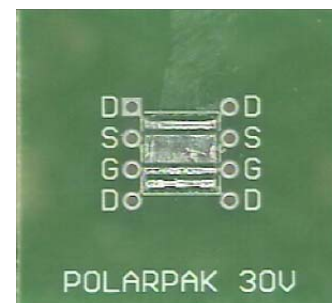

Figure 2. 1" x 1" PCB
- (2) Test PCB used for this experiment (Figure 2). See Appendix A for details.